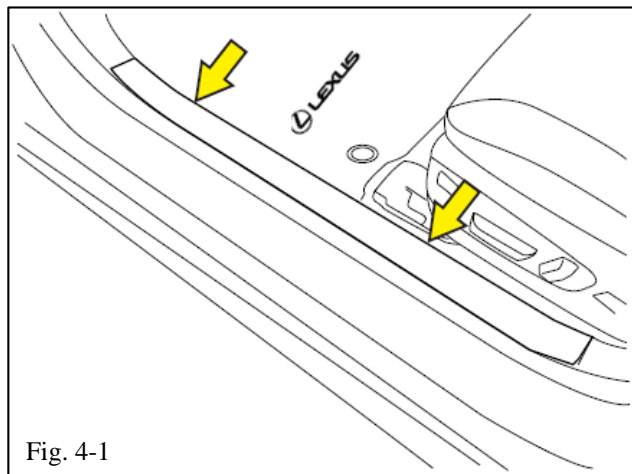

Fig. 4-1
- (a) Grasp the driver's side door sill panel. Pull toward the inside of the vehicle and remove it (Fig. 4-1).